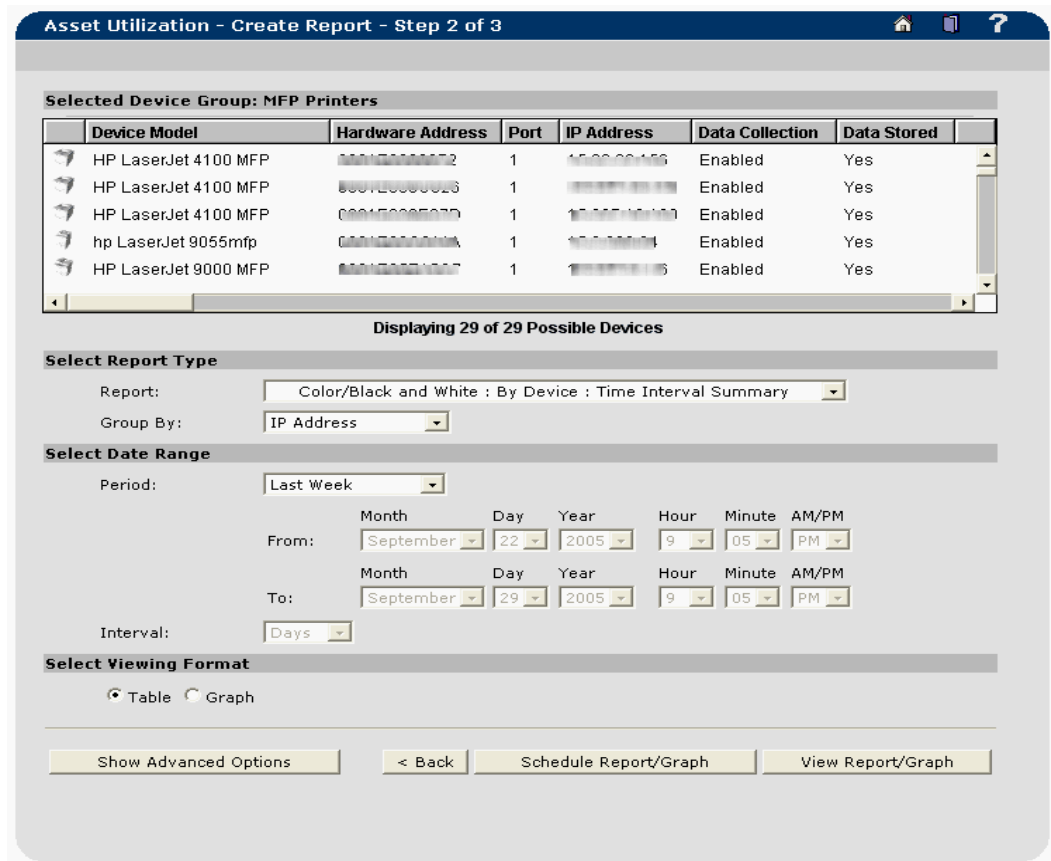

Figure 12. Configure a Report
4. Select the desired Device Group and click Next. This will display the report configuration page, where you define the report to be created and any specific parameters for that report (see Figure 12).
This covers just the basics for generating a report. There are many other options available by clicking the Show Advanced Options button (see Figure 12).